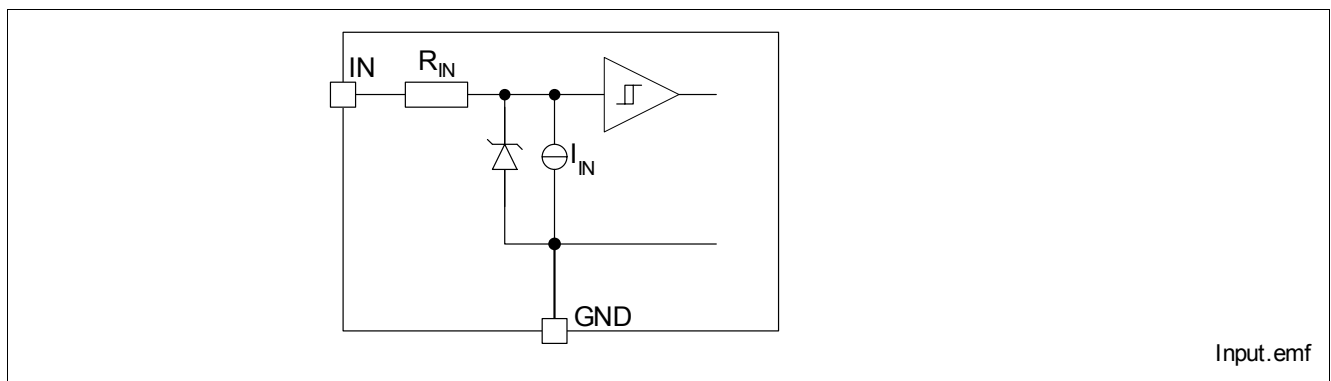

Figure 5 Input Circuit (IN1 and IN2)
**Figure 5** shows the input circuit of the BTS5246-2L. There is an integrated input resistor that makes external components obsolete. The current sink to ground ensures that the device switches off in case of open input pin. The zener diode protects the input circuit against ESD pulses.
The CLA pin circuit is similar to the input pin. Please refer to **Figure 5** for details. Please note that the thresholds for high and low state differ between IN and CLA.